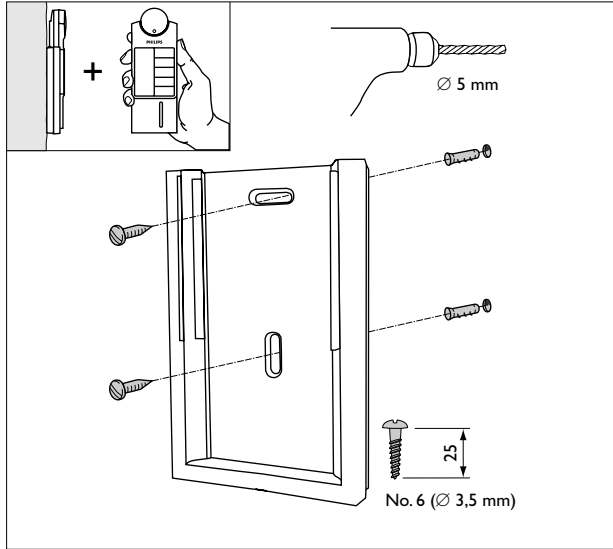

Figure 5a: mounting the wall holder
- Mounting	: with screws or double-sided tape. (see figure 5a)
The transmitter can be placed in a wall holder. If necessary the transmitter can be locked in the wall holder. For details see figure 5a and 5b: mounting the transmitter.